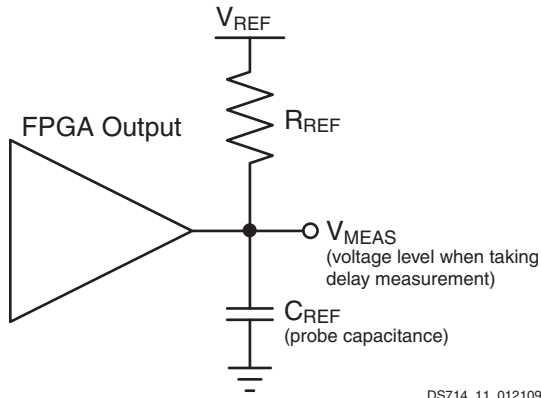
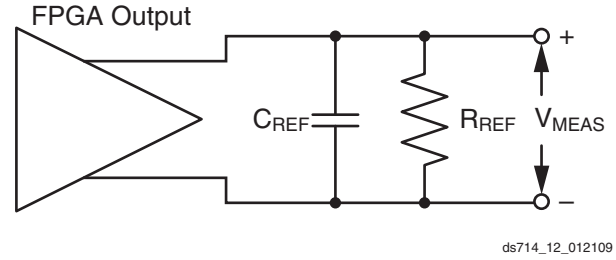

Figure 11: Single Ended Test Setup
Figure 12: Differential Test Setup
5. This is an input voltage reference that bears no relation to the V_{REF} / V_{MEAS} parameters found in IBIS models and/or noted in Figure 11, page 35.
Output delays are measured using a Tektronix P6245 TDS500/600 probe (< 1 pF) across approximately 4" of FR4 microstrip trace. Standard termination was used for all testing. The propagation delay of the 4" trace is characterized separately and subtracted from the final measurement, and is therefore not included in the generalized test setups shown in Figure 11 and Figure 12.